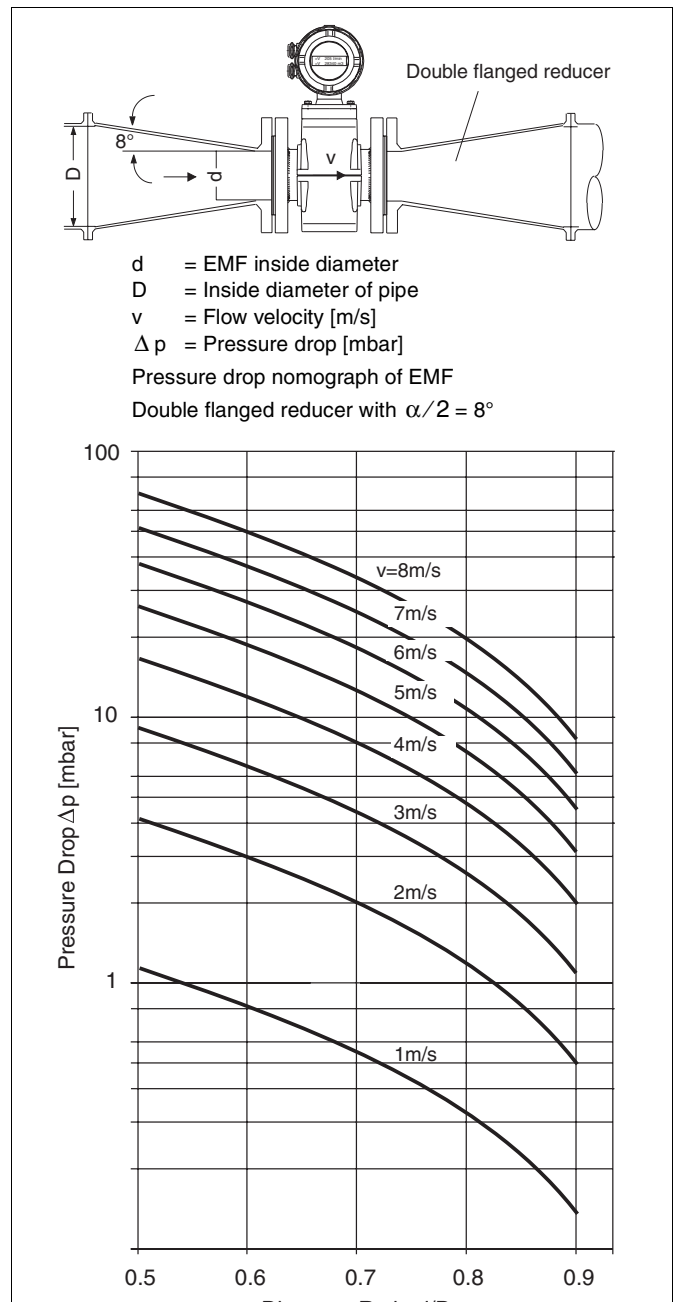

Fig. 6 Pressure Drop Nomograph
The flowmeter primary can be installed in larger size pipelines without concerns by utilizing transition fittings (flanged reducers per DIN 2616). The pressure drops resulting from the size reduction can be determined from the curves in Fig. 6. The procedure for determining the pressure drop is as follows:
3. The pressure drop can be read on the y-axis in Fig. 6.